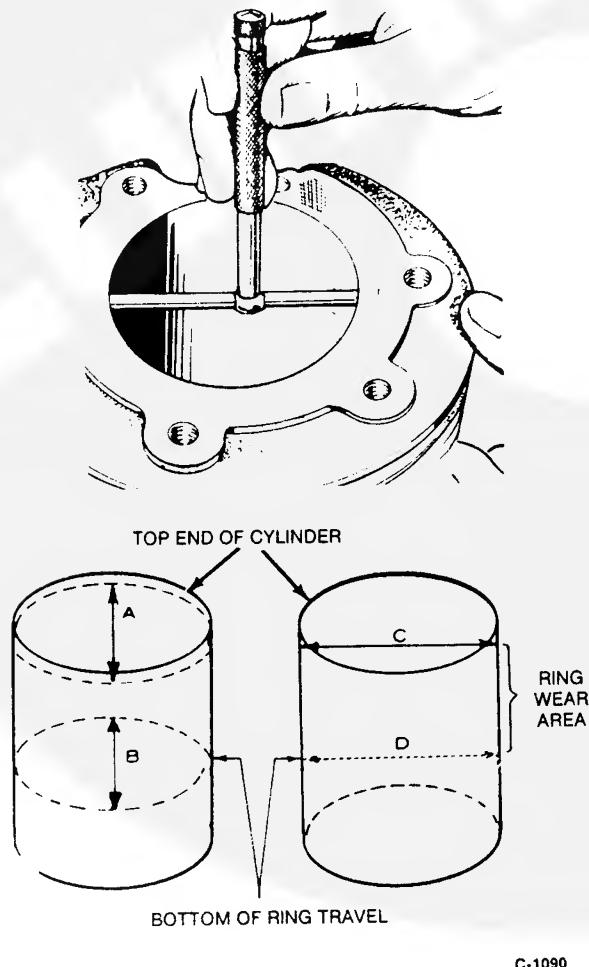

FIGURE 9-14. METHODS OF MEASURING THE DIAMETER OF A CYLINDER BORE
2. Record measurements taken at the top and bottom of piston travel as follows (Figure 9-14).